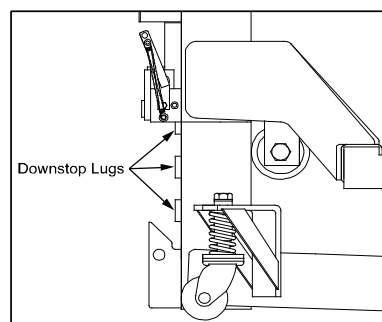

Fig. 7: Downstop lug identification
3. Raise the vehicle until it is 2"- 4" above the desired working height (the vehicle will lower by that amount as the downstop lugs engage). Visually confirm that the downstop pawls will engage downstop lugs at the same height on each lift. If they will not engage downstop lugs at the same height, carefully adjust vehicle level until the lifts are at the same height. See Fig. 7 and 8 for downstop pawl and lug identification.
- △ If you decide to raise the vehicle again before it has been fully lowered, you must reset the downstop pawls. To manually reset the downstop pawls, pull the downstop release handle toward you on each of the lifts. (See Fig. 7).